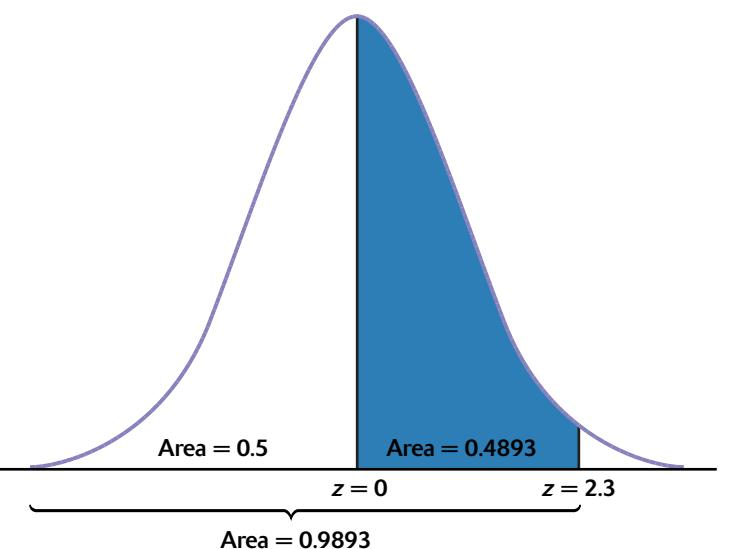

FIGURE 1.25 Areas under the standard Normal curve for Example 1.21.
Figure 1.25 shows the area under the standard Normal curve.
3. *Use the table.* The area between 0 and 2.30 is the area below 2.30 minus the area below 0. Look at Figure 1.25 to check this. From Table A,